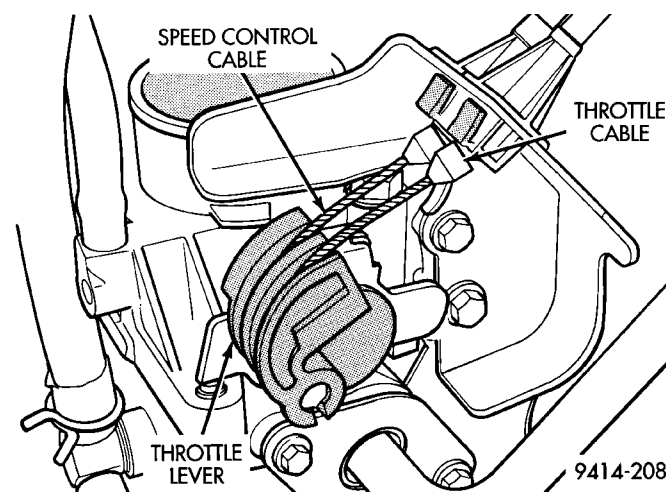
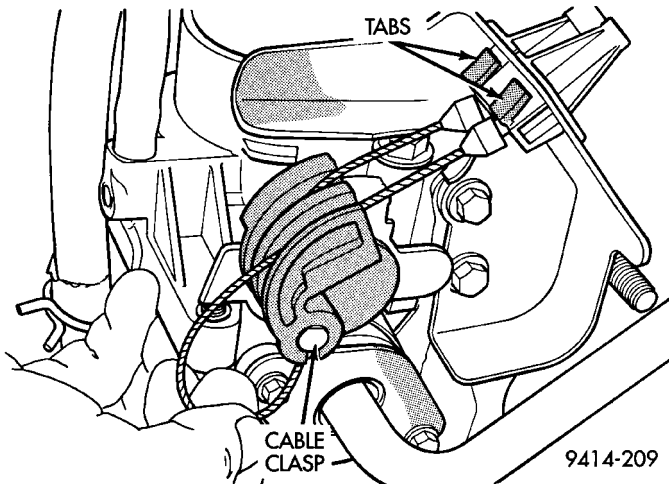

Fig. 85 Throttle Cable Attachment to Throttle Body
Fig. 86 Disconnecting Throttle Cable
- (1) Remove throttle cable cover.
- (2) Remove throttle cable from the throttle body cam (Fig. 85) and (Fig. 86).
(3) Compress the retaining tabs on the cable and slide cable out of bracket (Fig. 86).
(4) If equipped with speed control, remove speed control cable from throttle lever by sliding clasp out hole used for throttle cable.
(5) Remove 2 screws holding cable mounting bracket and support bracket.
(6) Remove TPS connector.
(7) Remove Idle Air Control motor connector.
(8) Remove the EVAP purge hose.
(9) Remove throttle body mounting bolts. Remove throttle body.
(1) Install throttle body on intake manifold. Tighten mounting bolts.
(2) Attach cable mounting bracket and support bracket with 2 screws.
(3) Connect the electrical connection to the throttle body.
(4) Connect the EVAP purge hose to the throttle body.
(5) Install cable housing(s) retainer tabs into bracket.
(6) If equipped with speed control, rotate the throttle lever forward to the wide open position and install speed control cable clasp (Fig. 86).
(7) Rotate throttle lever to wide open position and install throttle cable clasp (Fig. 86).
(8) Install throttle cable cover. Tighten bolt to 5.6 N·m (50 ins. lbs.).